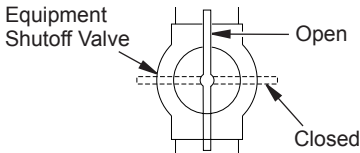

Figure 25 - Equipment Shutoff Valve
1. Close equipment shutoff valve (see Figure 25).
1. Open equipment shutoff valve (see Figure 25).
6. Close equipment shutoff valve (see Figure 25, page 17).